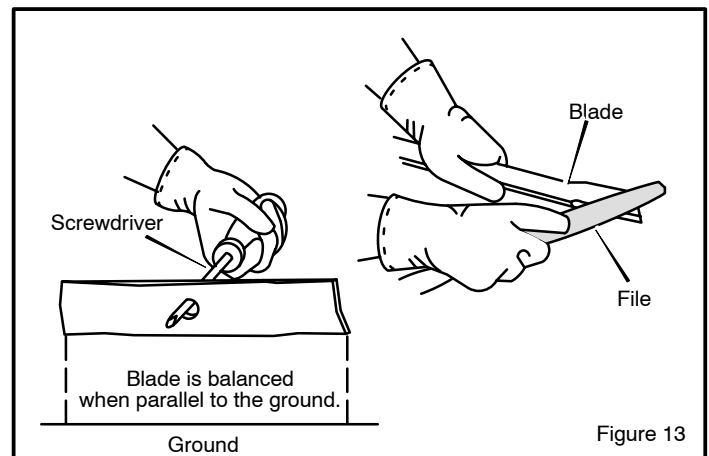

Figure 13
4. Sharpen the **blade** with a **file** (Figure 13). Make sure you keep the original bevel angle.
5. Make sure the **blade** is balanced. Use a **screwdriver** and hold the **blade** parallel to the **ground** (Figure 13). A **blade** that is balanced will stay parallel to the **ground**. If the **blade** is not balanced, the heavy end will rotate toward the **ground**. Sharpen the heavy end until the **blade** is balanced.